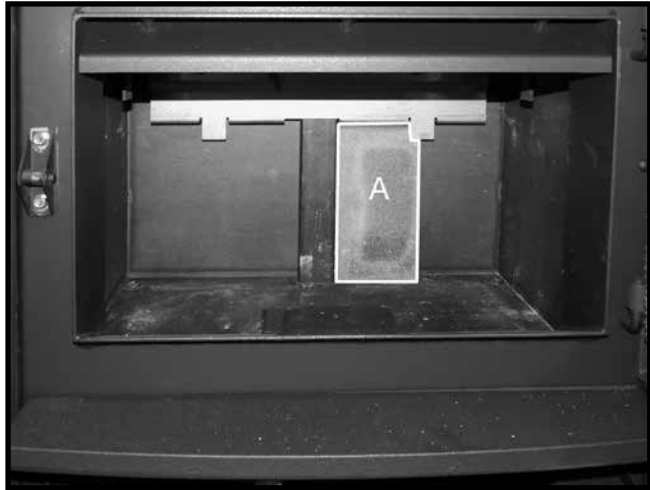

Figure 24: Installing the 1st of the rear wall firebricks.
1. Stand one "A" firebrick vertically behind the tab located on the brick rail. Slide the firebrick toward the center of the rear wall (Figure 24).